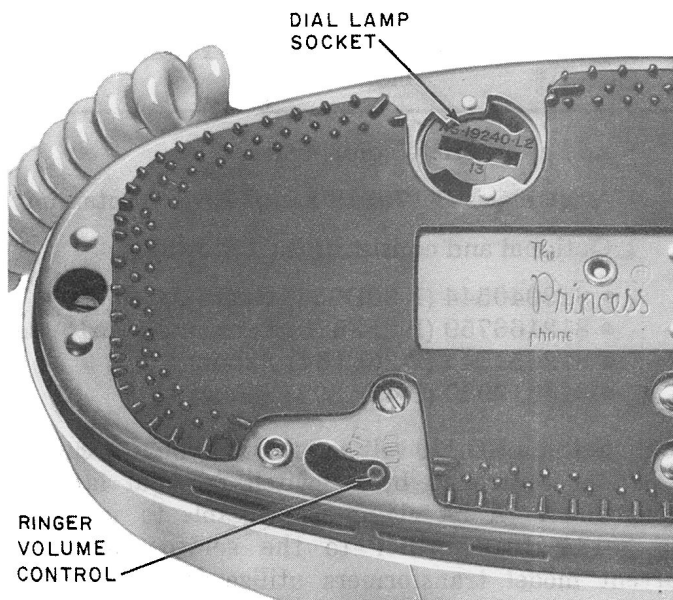

Fig. 5—2702D Telephone Set, Partial Bottom View
- **Ringer Volume Control:** provides manual control of ringer volume on 2702D or DM sets (Fig. 5).